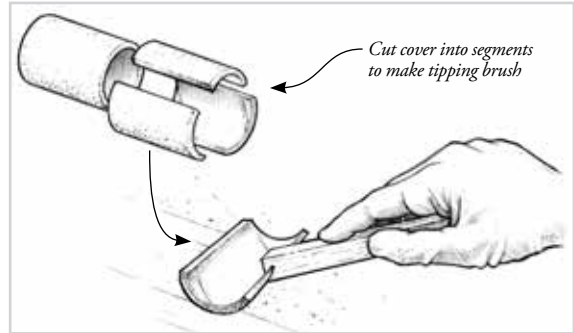

Figure 8-24 Tip off the fresh coat of epoxy with the grain, using a foam roller brush to remove bubbles and roller marks.
8. Drag a foam roller brush lightly over the fresh epoxy in long, even, overlapping strokes after each full batch is applied. Use enough pressure to smooth the stipple, but not enough to remove any of the coating (Figure 8-24). Alternate the direction in which